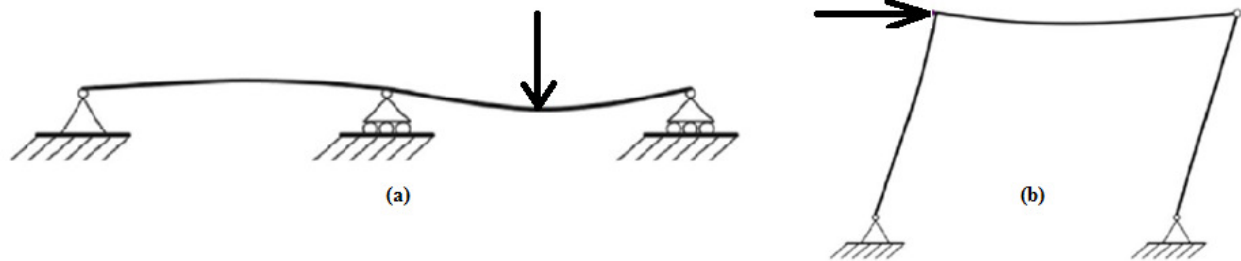

Figure Q1A
- (i) Given the following deflected shapes and point loads in Figure Q1A: